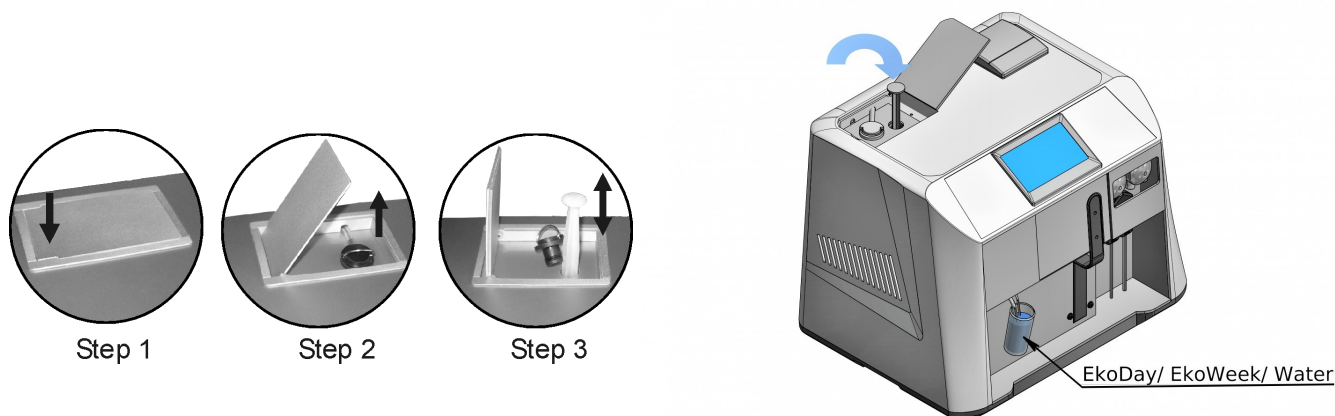

Figure 6: Hand-cleaning
2.3. Open the top cover by pressing its left side - Figure 6 - step 1.
2.4. Remove the plug as it is shown on the - Figure 6 - step 2.
2.5. Insert the plunger instead of the plug Figure 6 - step 3.